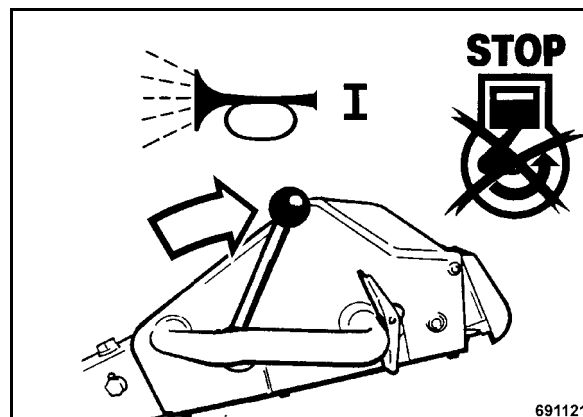

Fig. 37
- Set the throttle lever to position "STOP" (Fig. 37), the warning buzzer sounds.